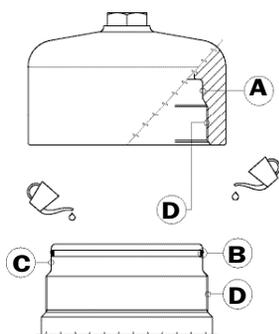

Fig. 3
- 4 To avoid damaging the components check the cover threads and the seals thoroughly; check also the housing-thread. Check the condition of the seals - when changing the seals lubricate the new seals with operating fluid prior to installation (see fig. 3).